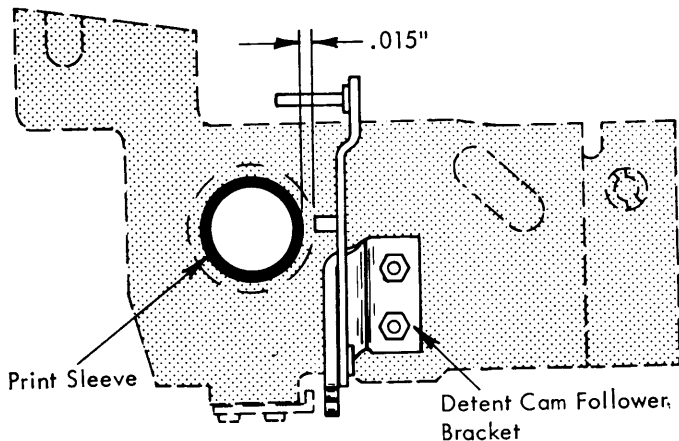

FIGURE 39a. Detent Cam Follower Bracket
- a. Front to rear for a clearance of .015" between the print sleeve and the end of the pin on the cam follower (Fig. 39a).